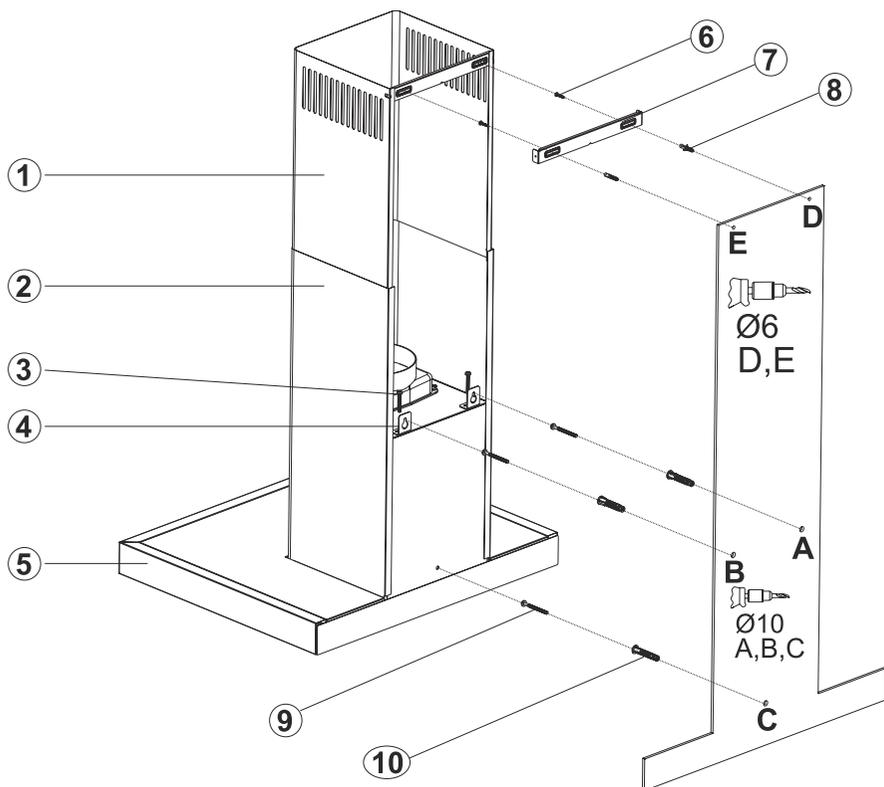

Fig. 12
2. ➤ Affix the assembly pattern on the wall at the specified height (See the minimum and maximum distances intended for the worktop, in the assembly pattern) and drill holes A, B and C with the dimensions specified in the template (Fig. 12).
3. ➤ Insert  $\varnothing$  10mm wall plugs into the holes drilled as A, B, C, D, and screw down the 5.5 x 60 screws (9) at the points A + B, in such a way as to remain 5mm space between the screw head and the wall (Fig. 12).
4. ➤ Affix the hanging plates of the cooker hood on the body of the cooker hood with M5x35 bolt (3) (Fig. 12).
5. ➤ Hang the hood from its hanging plates on the wall at points (A, B). If the hood is not parallel, position its shape to parallel by tightening or loosening M5x35 screw (3).